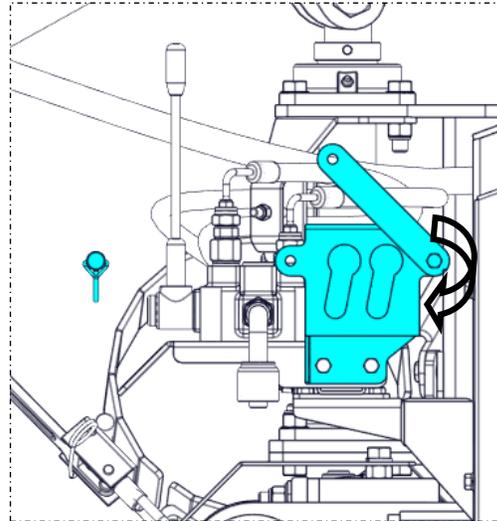

Figure 6.2
- B) Rotate the lock plate clockwise (Figure 6.2). If the lock plate is too tight, loosen the bolt at the bottom of the lock plate.